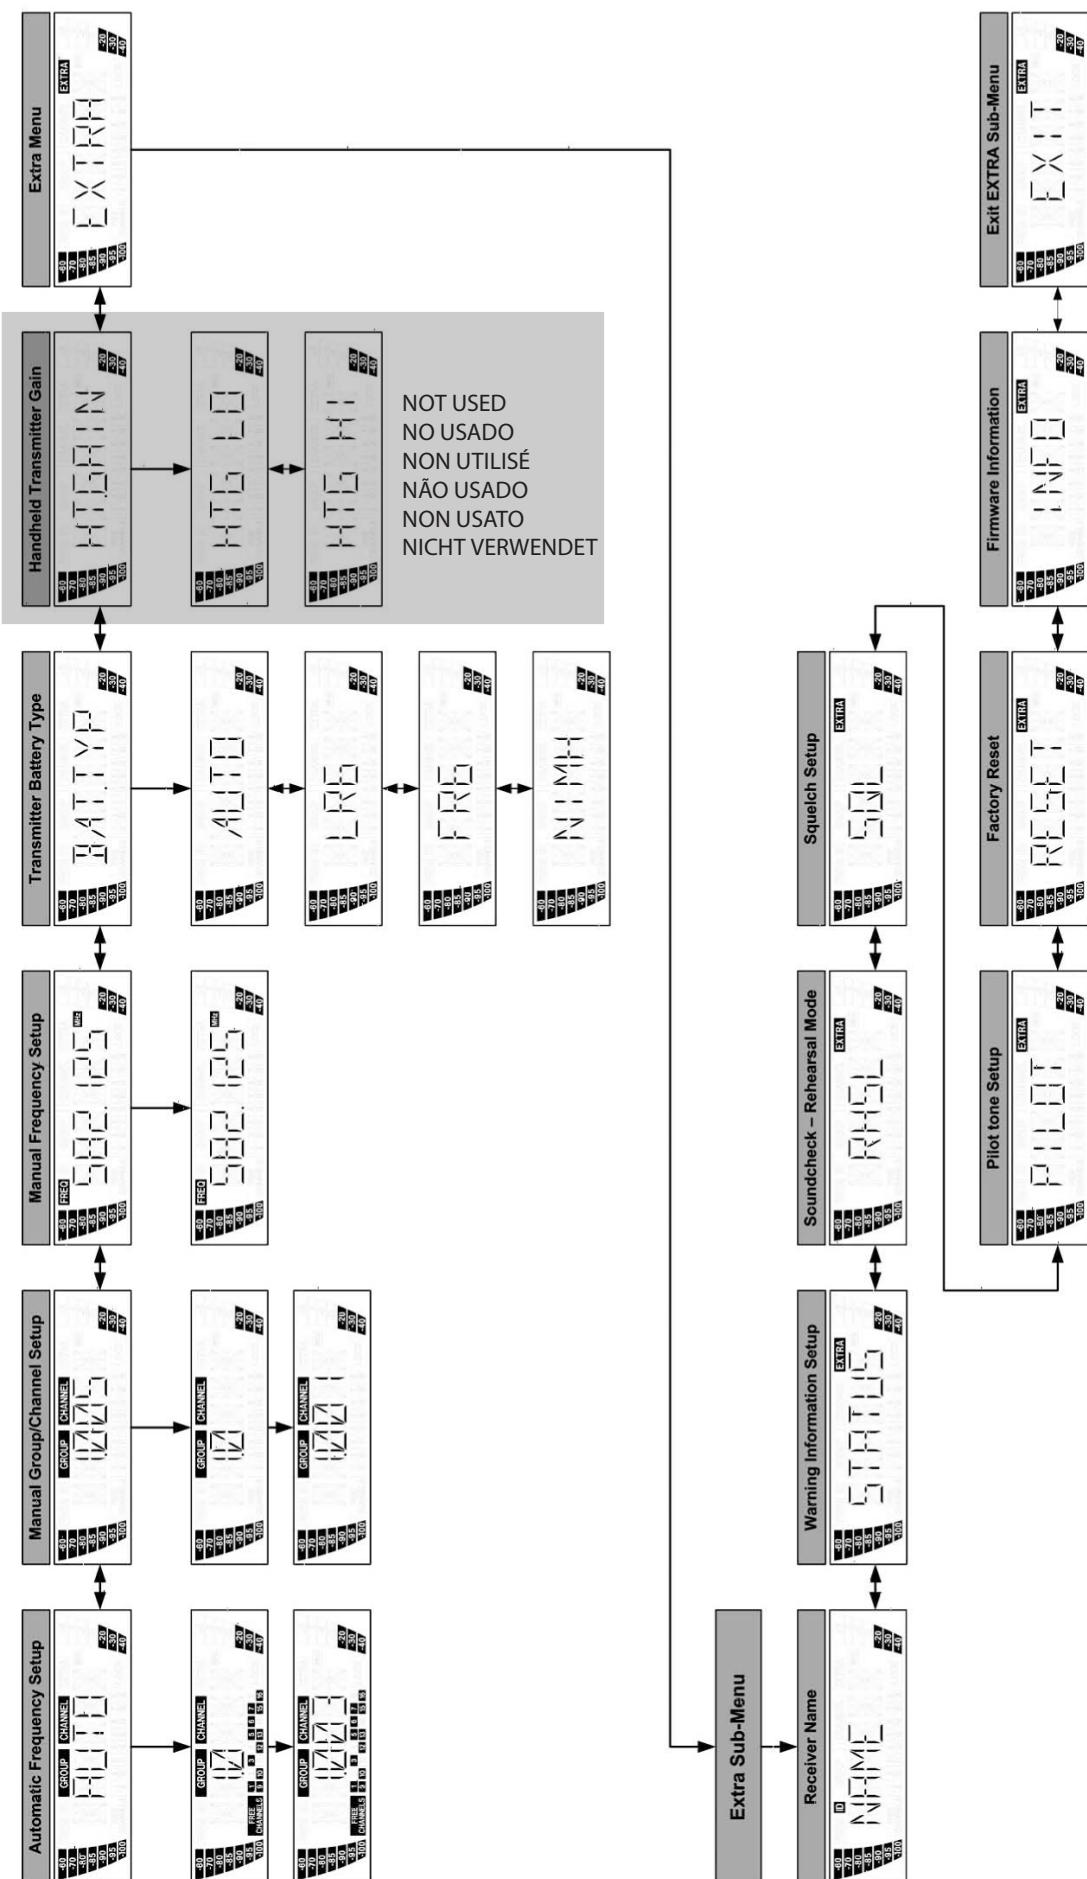

Fig. 1
① Refer to fig. 1 on page iii.